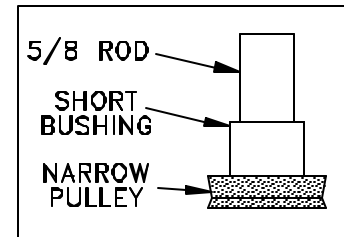
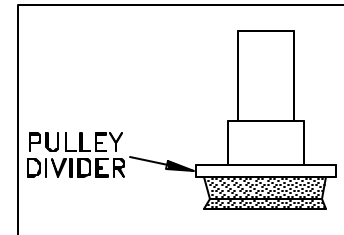

Figure 12
Figure 13
- Set the AutoStop tube aside and find the narrow pulley. Please note that the narrow pulley's groove is off center. Set the pulley on the bench with the groove oriented closest to the bench. (Figure 12 & 16) Insert the short bushing into the pulley and the 5/8 rod into the bushing. (Figure 13)
- Place the pulley divider on the pulley. (Figure 13) **NOTE:** The pulley divider is NOT square. It is slightly wider one direction than the other. During use, the pulley divider must be oriented long side horizontal, to keep the cable from jumping between pulleys.